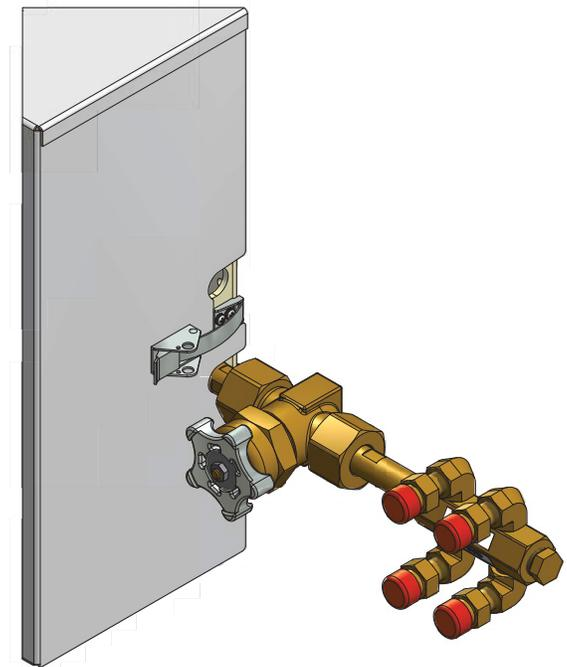
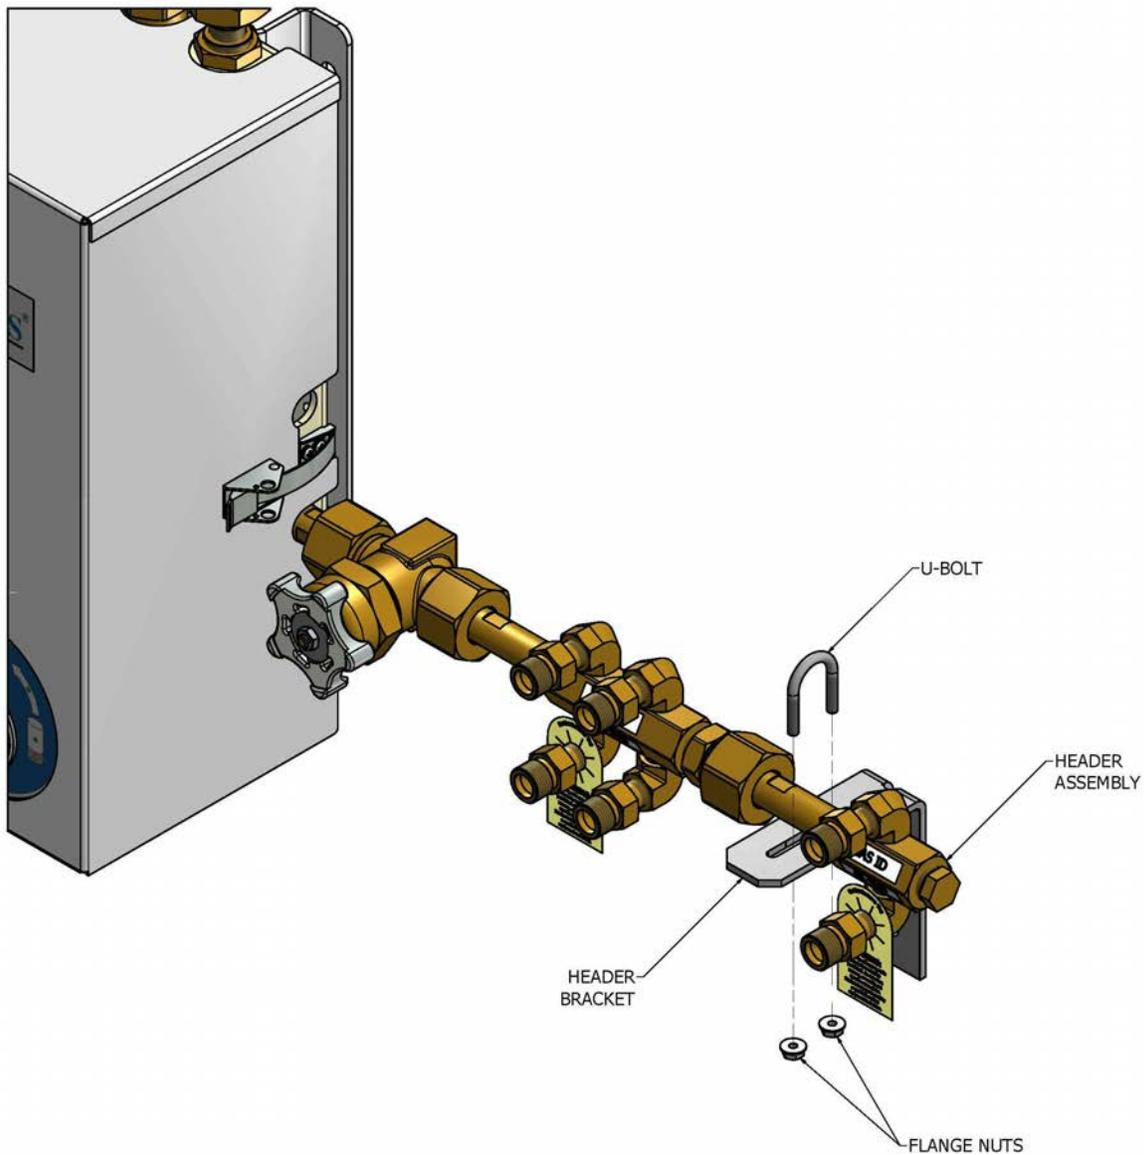
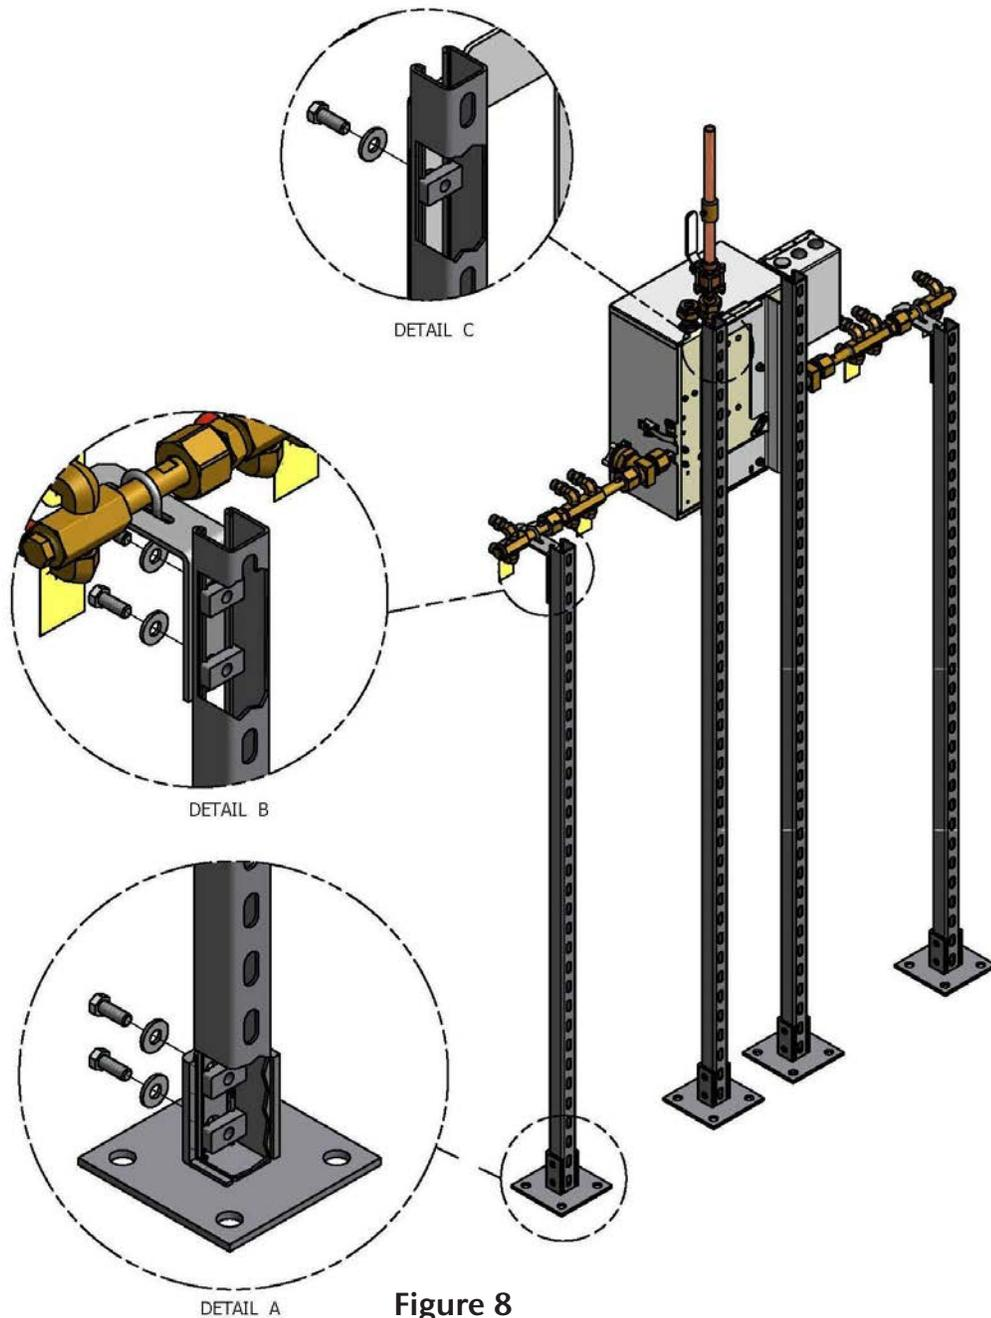

Figure 4
Figure 5
Figure 8
8. For all manifolds, additional shipping cartons contain extension headers and header wall brackets. Attach master valve and appropriate header extension to manifold control module. Position cylinder inlet connections of each header extension so they are pointing out (away from the wall) and tighten header extension (Figure 4).
9. Each header kit greater than 5 inlets is shipped with an appropriate number of header brackets. Position brackets against wall and on bottom side of header as shown in Figure 5. Attach bracket to wall using appropriate anchors (by others).  $\frac{3}{8}$ " diameter anchors are recommended.
5. Attach post base to one end of each 80-inch channel as shown in Figure 8, Detail A. Use two each  $\frac{3}{8}$ " bolts, flat washers and channel nuts per base. Tighten all four bolts.
6. Stand each channel / base side by side. Attach manifold mounting bracket to both bases as shown in Figure 8, Detail C. Use four each  $\frac{3}{8}$ " bolts, flat washers and channel nuts per base. Top of bracket should be level and positioned 77- $\frac{1}{2}$ " above floor. Tighten all four bolts.
10. Additional cartons containing master valves and header assemblies will be shipped loose. Header wall brackets, mounting hardware and plugs will also be shipped loose for manifolds with more than five cylinders per bank. Attach the master valves and appropriate header extensions to the manifold control panel. Position cylinder inlet connections of each header extension so they are pointing out (away from the wall) and tighten header extension (Figure 4). If wall brackets are required install as necessary (Figure 5).
11. Each header extension is shipped with a header bracket. Each header bracket should be attached to a manifold header stand. Assemble each header stand by attaching a post base to one end of 66-inch channel as shown in Figure 8, Detail A. Use two each  $\frac{3}{8}$ " bolts, flat washers and channel nuts. Tighten all bolts.
12. Set header stand in a vertical position roughly in alignment with two vertical control panel stands. Position header bracket against channel and on bottom side of header as shown in Figure 5. Attach bracket to channel as shown in Figure 8, Detail B. Use two each  $\frac{3}{8}$ " bolts, flat washers and channel nuts. Tighten all bolts.